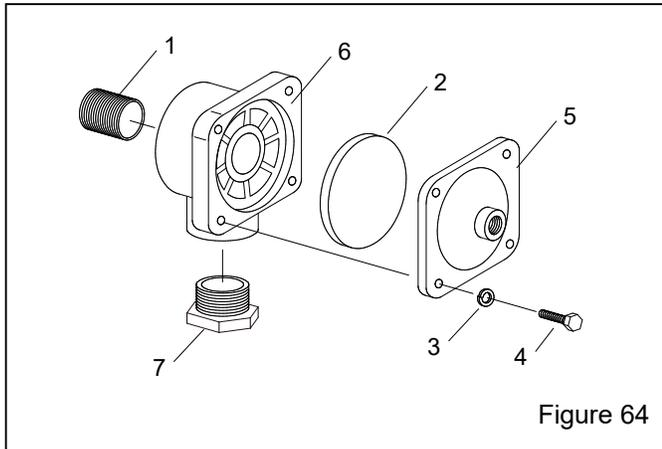

Figure 64
**10.7 1" Diaphragm Outlet Valve – Figure 64**